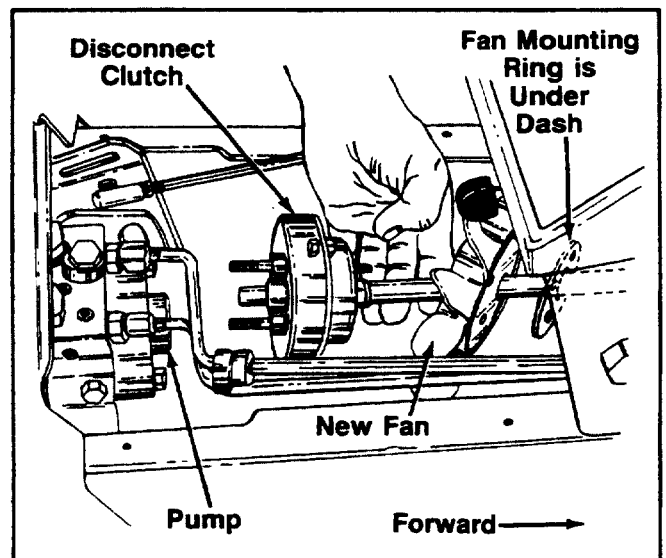

FIGURE 10.
- Place the new fan, then fan mounting ring on shaft of clutch assembly. See figure 10.